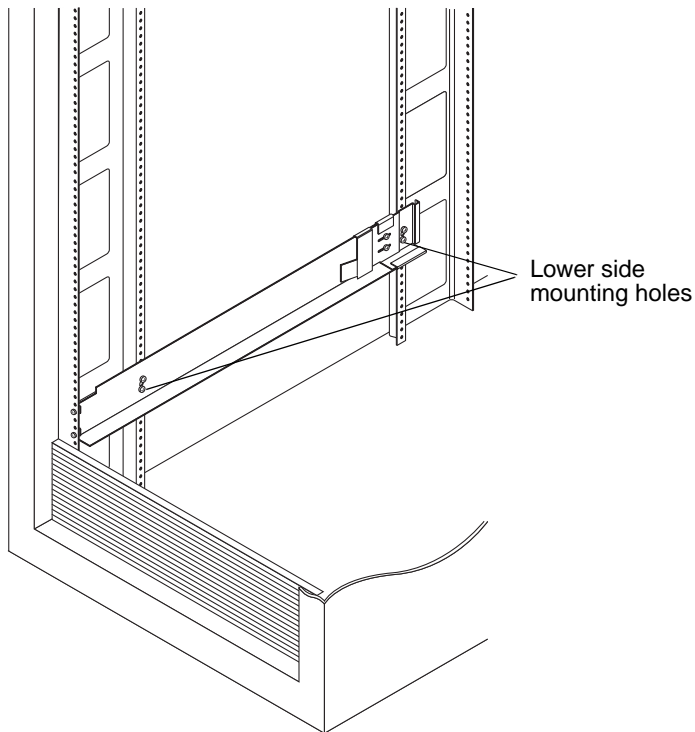

FIGURE 2-6 Inserting Screws in the Lower Side Mounting Holes of the Cabinet
- Using the No. 2 Phillips screwdriver, insert two 10-32 screws in the lower side mounting holes of the side rails (FIGURE 2-6). Use hole 8 for the first tray and hole 11 for the second tray. Repeat for the right rail.